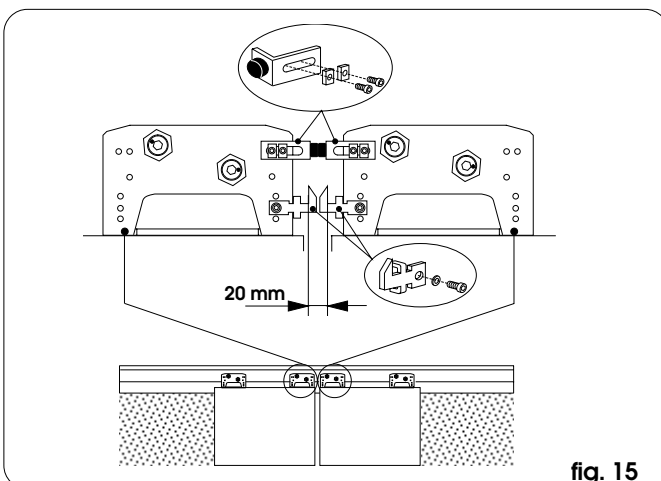

fig. 15
- fit the mechanical closing stops on the internal carriages as shown in fig. 15;
- if using the padlock, secure the hooks to the internal carriages - as shown in fig. 15 - in the central hole of the 3 specified holes.
- For double-leaf doors: adjust the stops fitted on the internal carriages in order to leave a few millimetres of space between the closed leaves. If using the padlock, while the leaves are closed, check if the hooks fitted on the internal carriages comply with the dimension in fig. 15 (if the dimension is greater, move the two internal carriages closer).